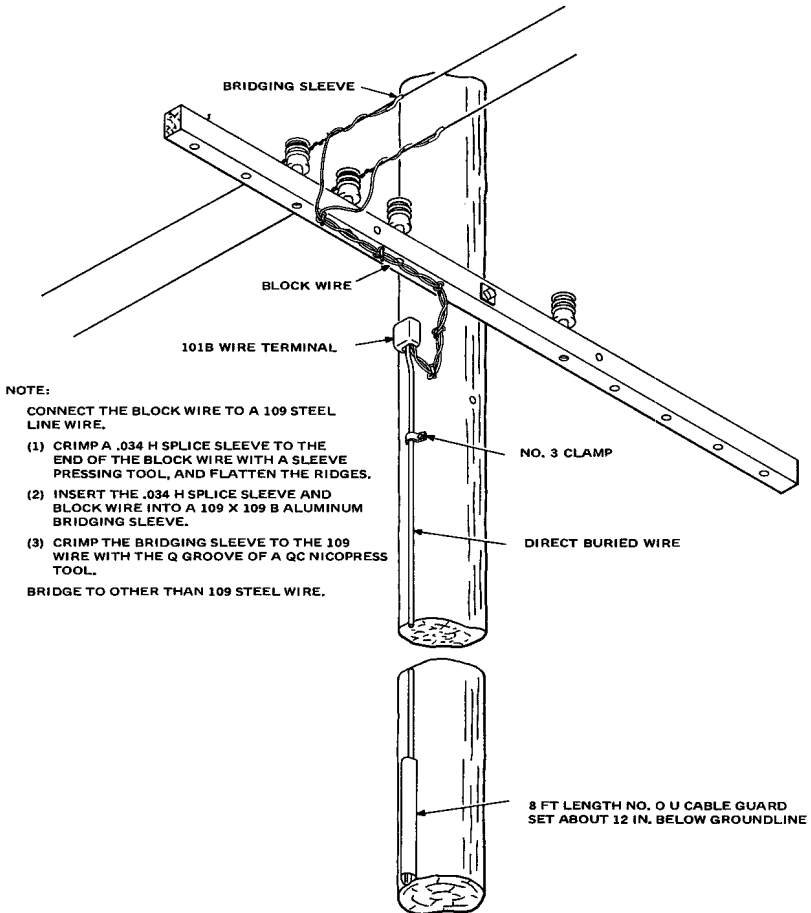

FIGURE 7. Termination of Underground Wire and Open Wire
5.02 At the junction with open wire, direct buried wire can be brought up a pole and terminated in a pole mounted wire terminal. At the groundline, the wire should be covered with an 8 foot length of No. 0 U cable guard. The armor wire should be cut off as shown in Figure 2. Block wire must be used between the protector and the open wire. A typical installation is shown in Figure 7.